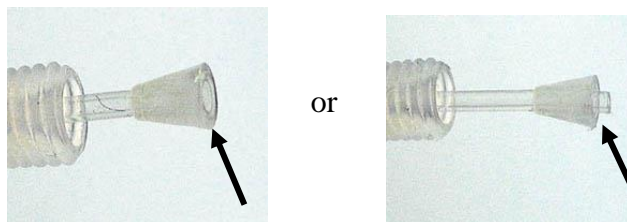

Fig. 10: Connecting the waste or sample inlet tubing to the diverter valve
2. Use the PTFE screw and ferrule connection to couple the other end to the sample inlet of the diverter valve (→ Fig. 10).
4. To the other end of the PEEK capillary, slide on the PTFE nut and then the PTFE ferrule (→ Fig. 10).